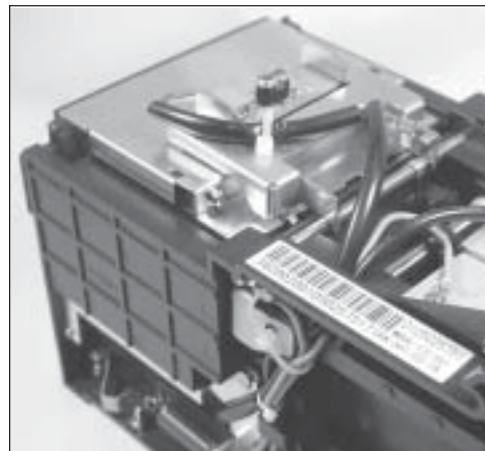

Figure 3
- g. Secure the harness (Part No. 079485) on the swivel plate with the Ty-wrap before threading it to the circuit board. Tie it off on the stand-off plate (Figure 3).